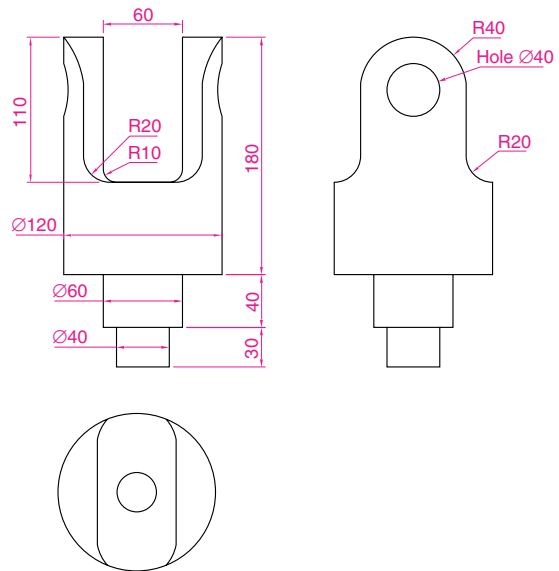

Fig. 7.4 **Front** and **end** views and **plan** of the solid
3. Draw what is seen when the solid is viewed from above the front view. This produces a **plan**. Fig. 7.4 shows the plan below the front view.